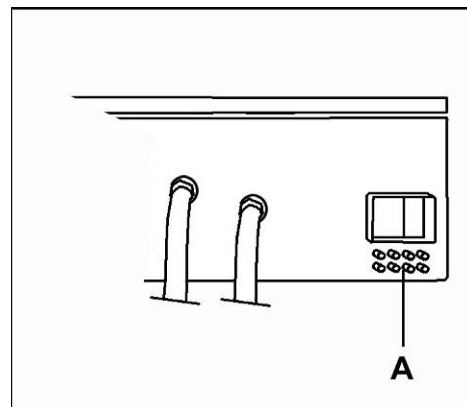

Fig. 3.16
- Connect the hoses to the nipples **A** on the manifold (Fig. 3.16).